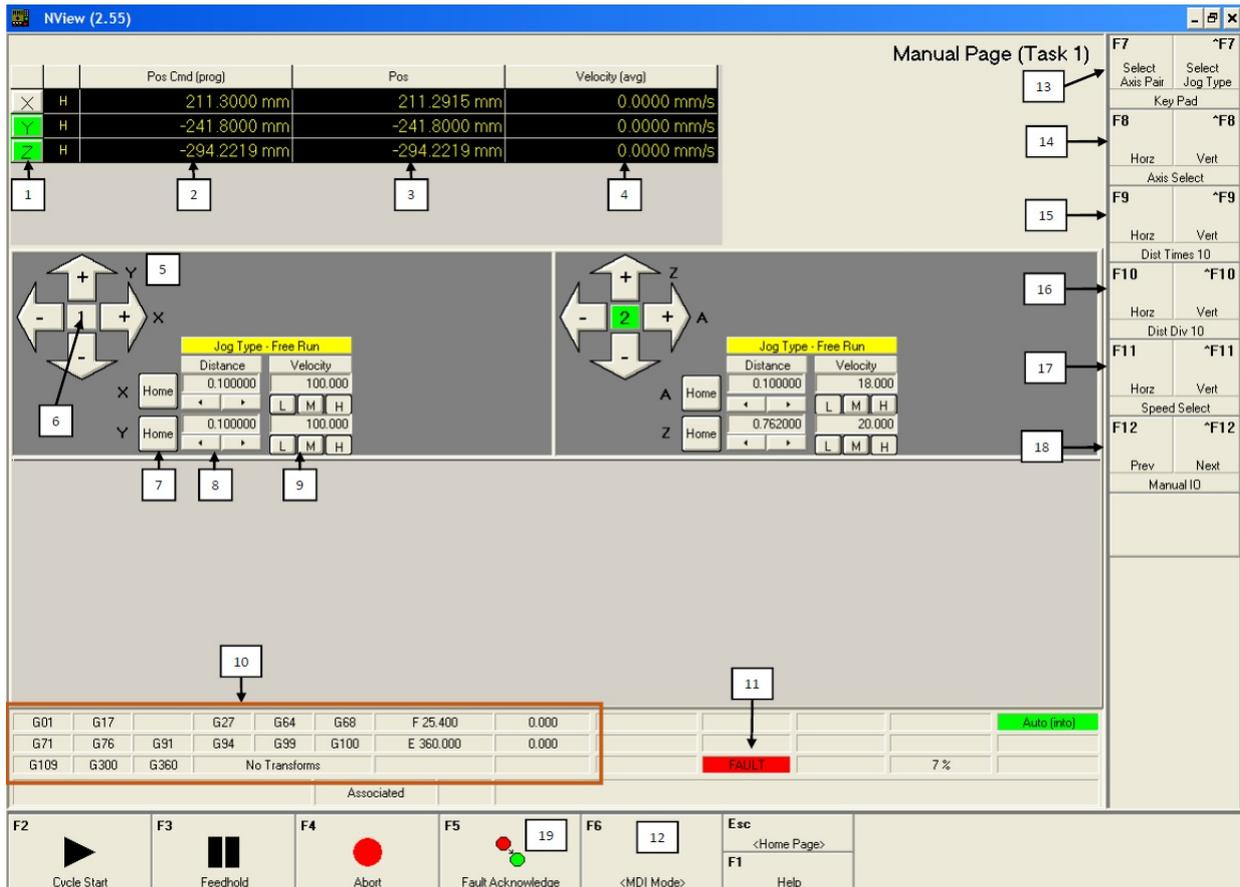

Figure 50: NView Manual Page.
- Manual Page (Figure 50) Used to manually move the x, y, and z axes.